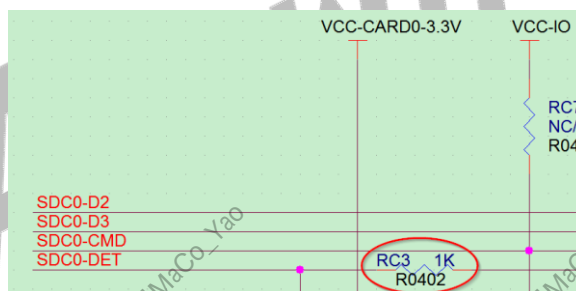

Figure 2-22 SDC0-DET Series Resistors
- Suggest that reserve the series resistors in the DET signal line. This is to avoid the signal undershoot when SD CARD is inserted to affect the signal quality and to improve the ESD performance of IO signals. As shown in Figure 2-22.